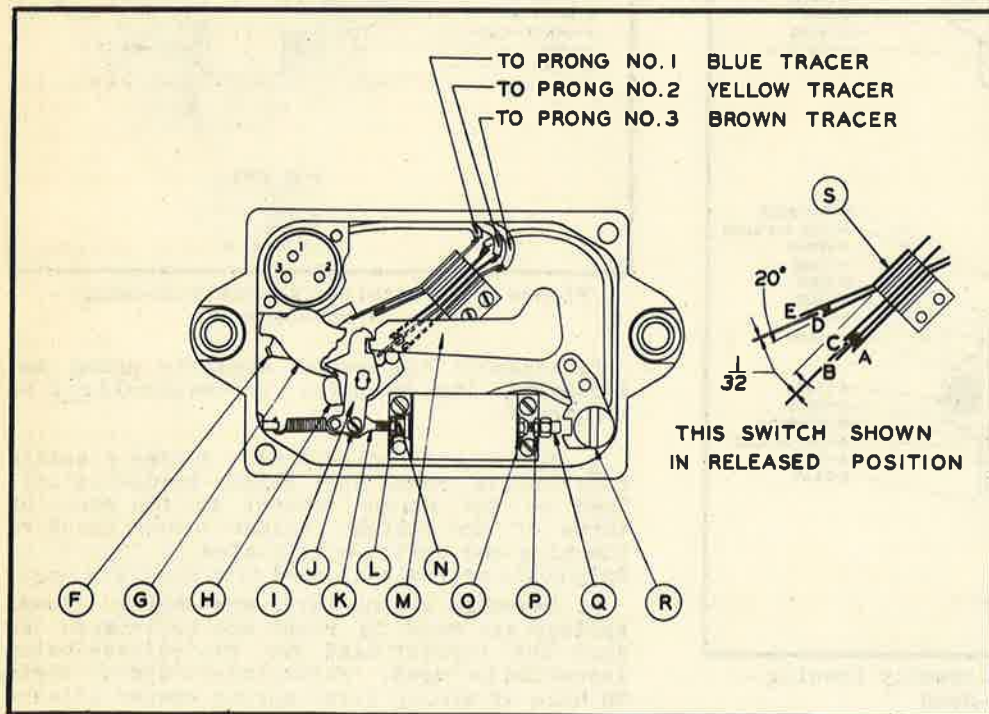

Figure 15
g. Solder all connections. Solder flexible coil lead to ground lug; solder insulated coil lead to the center contact in the group of three of the switch. Solder other leads to the plug and switch as indicated in figure 15. Only rosin or rosin-alcohol flux should be used.
4. Adjustment (refer to figure 15).